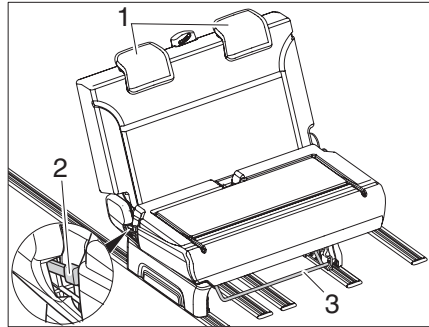

Fig. 15 Bench seat
- ▷ Do not stand on the bar (Fig. 15,3).
- ▷ Do not carry the bench seat bed by the bar (Fig. 15,3).
- ▷ Move the bench seat bed only while sitting. Do not pull or pull slide the bench into position from the side at the bar (Fig. 15,3).
- Pull the bar (Fig. 15,3) and push the bench seat forward.
- Remove the headrests (Fig. 15,1).
- Pull the lever (Fig. 15,2) and fold the bench seat backrest to the back.
- Press the lever (Fig. 15,2) for secure latching of the backrest downwards again.